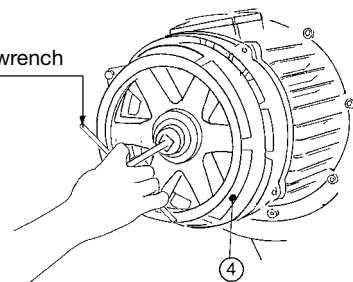

Fig. 18
**Removing and installing:** first make sure that there is no load applied, loosen the screws pos. 1 (Fig. 16), and remove the brake housing pos. 2 (Fig. 16) and remove the brake adjusting the ring nut pos. 3 (Fig. 16) with the special wrench (Fig. 17). Remove the brake fan pos. 4 (Fig. 18). Install the new fan pushing it forward with a lead mallet, install the brake housing pos. 2 (Fig. 16) and the screws pos. 1 (Fig. 16), and then perform the adjustment as shown in the section "brake fan adjustment" on page 65.